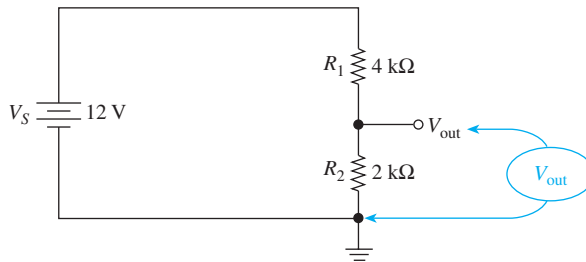

Figure F-4 Circuit used to calculate the output voltage (V_{out}) with respect to ground.
Use the voltage-divider equation to find V_{out} in Figure F-4. (V_{out} is the voltage from the point labeled V_{out} to the ground symbol.)
- F-5.** If the supply voltage in Figure F-4 is increased to 18 V , V_{out} becomes _____ ($6\text{ V}/12\text{ V}$).
F-3. Refer to Figure F-4 to solve for the unknown quantities in the following table.
F-4. Refer to the original Figure F-4 to solve for V_{out} given the following open- and short-circuit conditions.